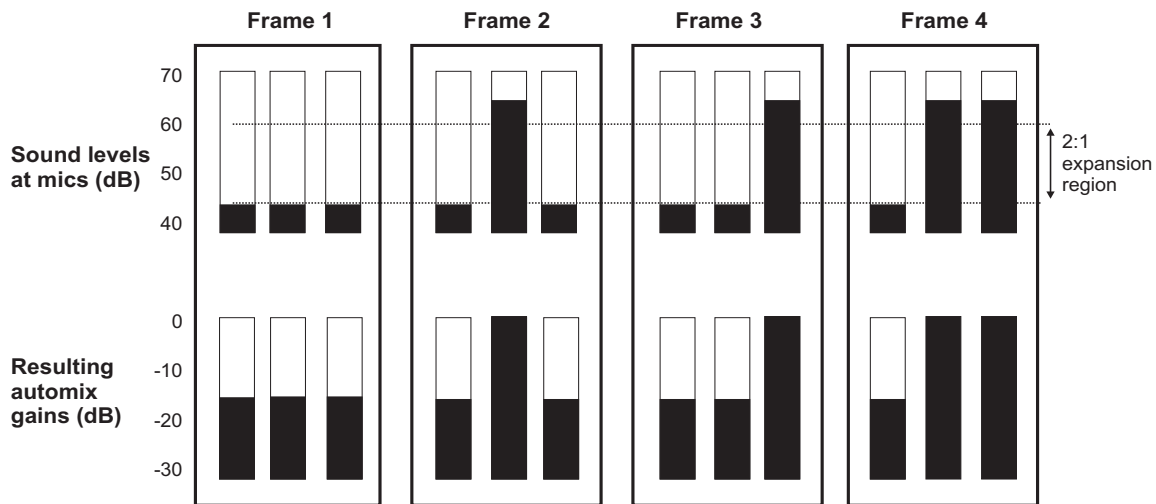

Figure 3-8
- Frame 1 (Figure 3-8) shows no one singing. The system keeps all channels at a low gain.